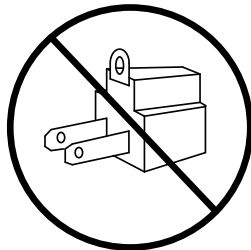

Figure 4
- Do not use an adapter. (See Figure 4).